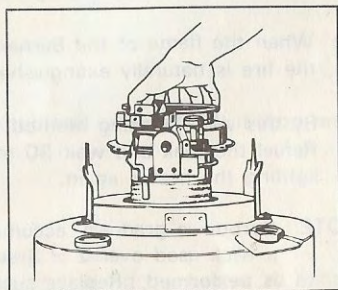

Fig. 22
- (7) Pull off the wick holder assembly from the tank (Fig. 22).